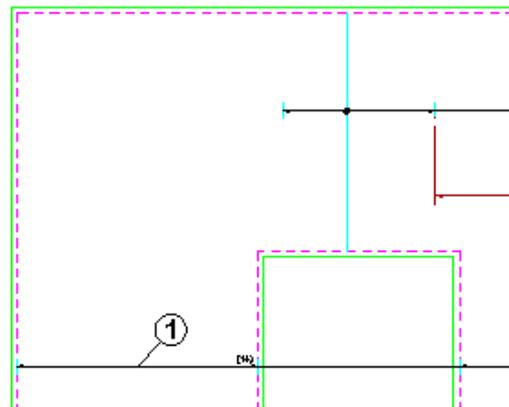

Figure 7.3.10:1 Using Edit Range to add a Range Group
- ▶ Make the Viewport on Edit Range Multiple Group (04) Layout current
- ▶ Select RebarCAD → Editing → Edit Range or  or double click on the Range Line as shown by point 1 in figure 7.3.10:1 below